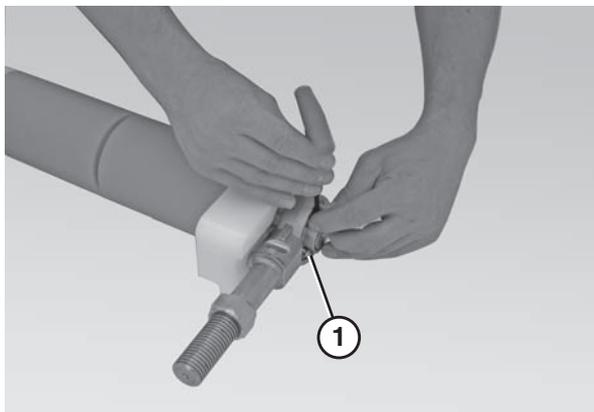

Figure 64
- Use a 4 mm hex wrench to loosen the bearing fasteners (Figure 64, item 1).